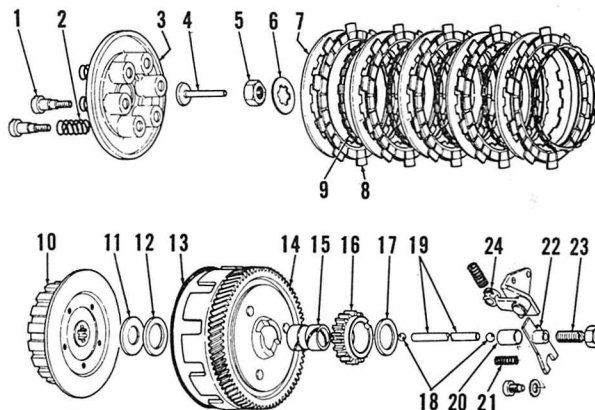

Fig. Y4-16—Exploded view of the clutch assembly. Parts (20 thru 24) are located in left cover.
Clutch friction discs (8—Fig. Y4-16) are 0.158 inch (4MM) thick and should be renewed if less than 0.146 inch thick. Free length of springs (2) is 1.34 inch when new. Springs should be renewed if free length is less than 1.299 inch. Inspect all parts for wear, warp and evidence of overheating. Make sure that separator rings (9) are not twisted when installing.